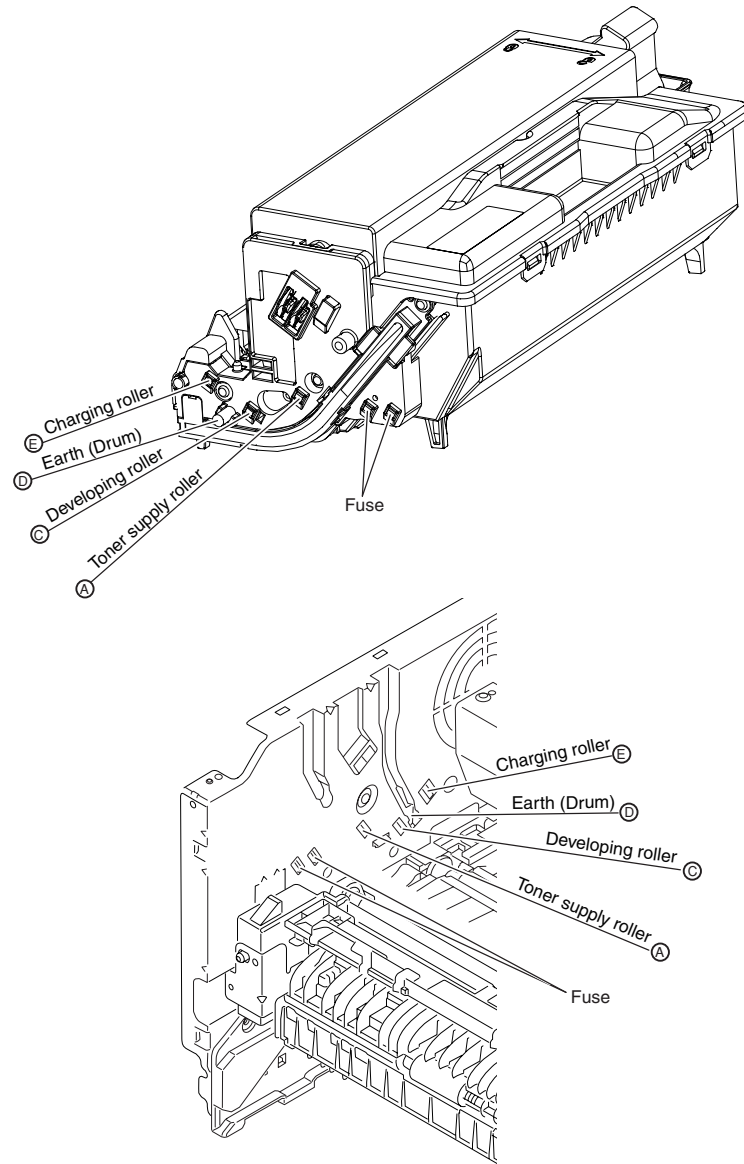

Figure 2-2
- Yes Are the contact of the developing roller and toner supply roller of the image drum cartridge appropriately connected to the contact assembly? (See Figure 2-2 (A) and (C))